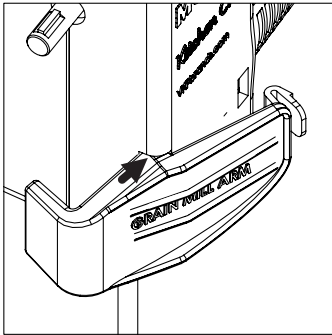

Fig. 1
1. Slide the Grain Mill Arm or the Food Strainer Arm into the slot on the flat end of the motor (see Fig.1).